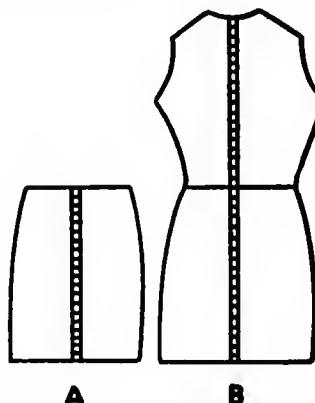

Fig. 32. Skirt and coat measurements.
- A. Measure from the waistline to the hem at the center front and back (Fig. 32, A).
- B. Measure from the prominent bone at the back of the neck to the hemline, holding the measure in at the waistline (hold the measure to the floor for a full length formal coat) (Fig. 32, B).